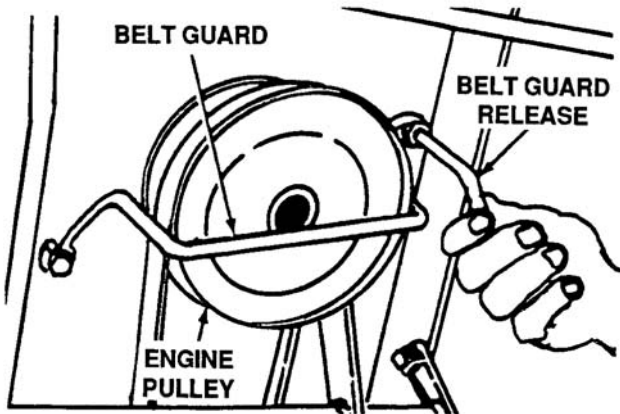

Figure 4-60. Releasing Belt Guard
3. Unscrew the belt guard release next to the engine pulley. See Figure 4-60.